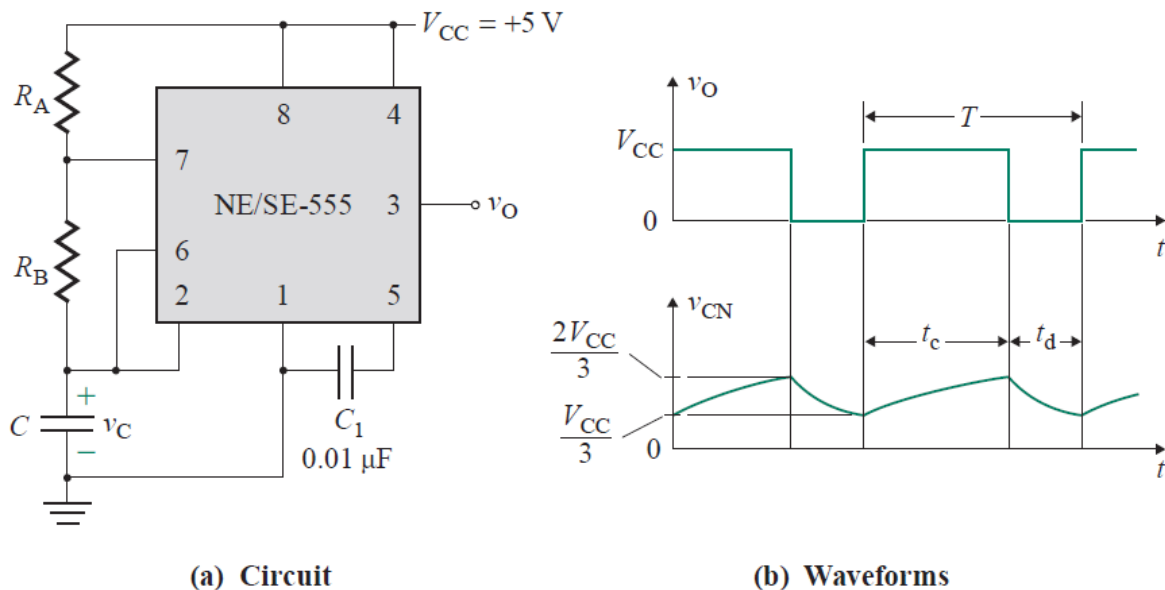

Figure 12.1
1. Construct the circuit of Fig. 12.1 using 555 timer.